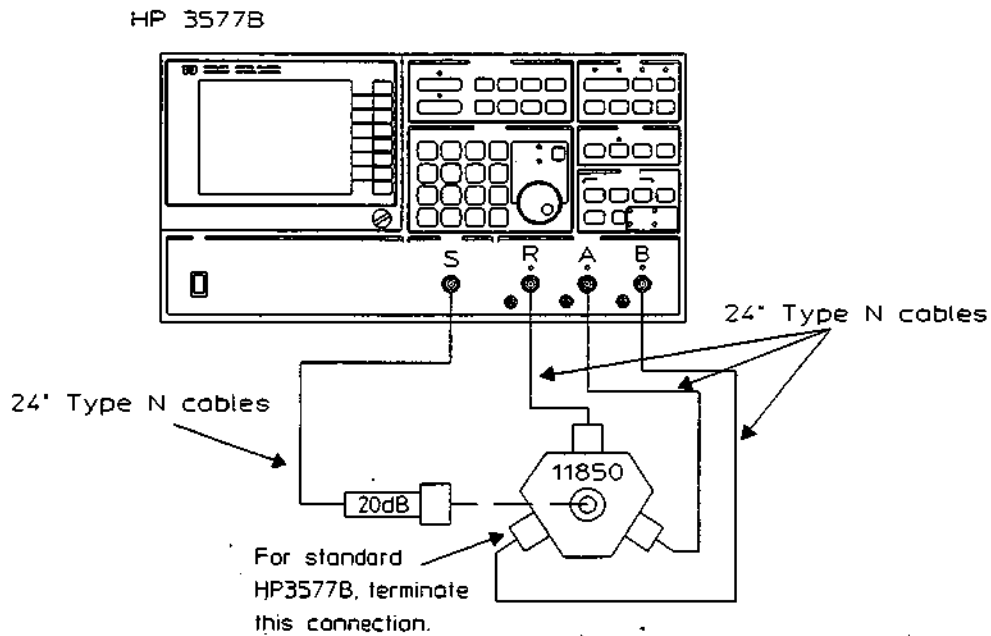

Figure 5-4.
- e. After the calibration data has been collected, connect the equipment as shown in figure 5-4.